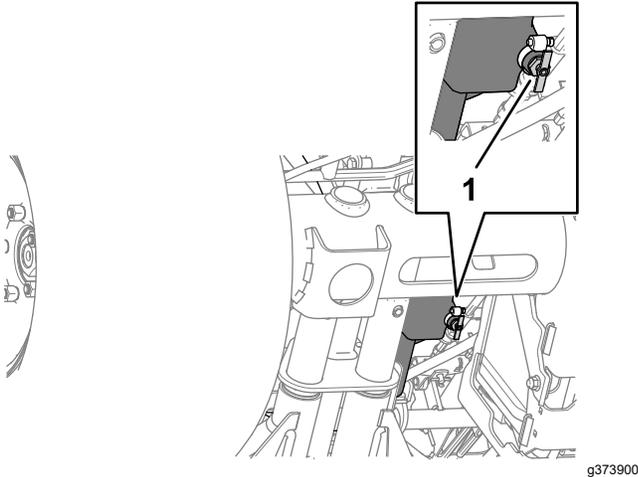

Figure 87
2. Align a drain pan under the fuel tank-drain valve (Figure 87).